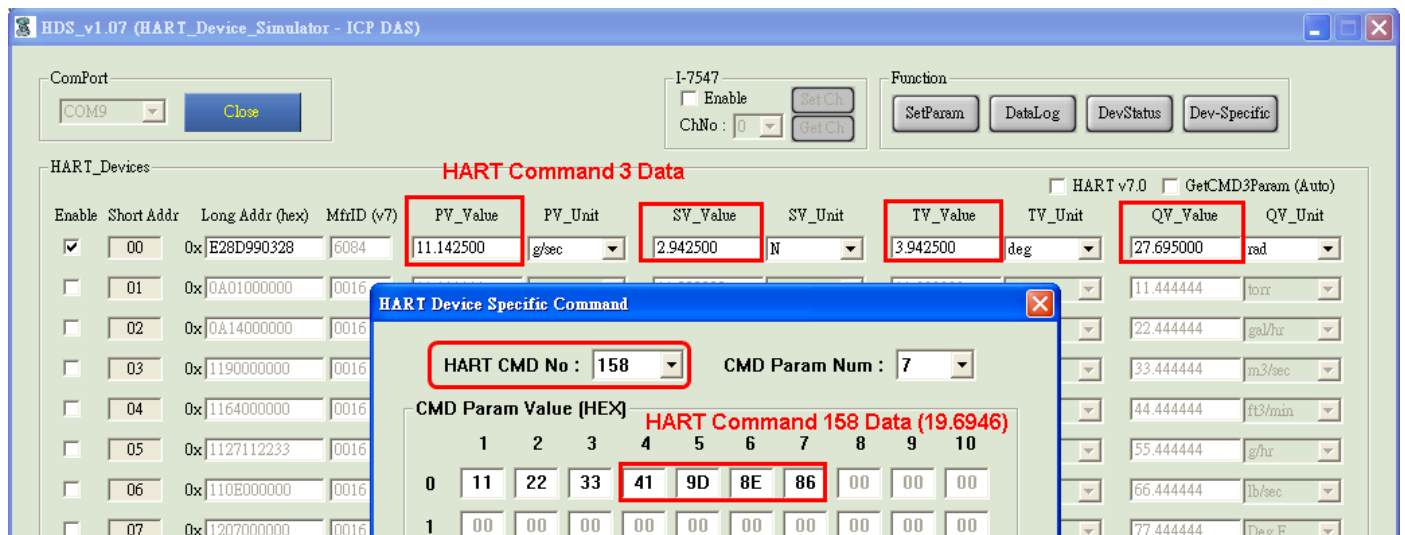

Fig 27-1 : Set HART command 3 and 158 data in the HDS
(1) Using HDS (HART Device Simulator) software to set HART command 3 and 158 data (Fig 27-1).